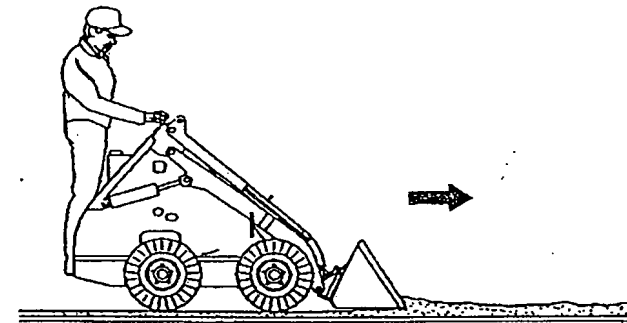

FIGURE 15
2. Drive machine forward slowly and continue to tilt bucket forward until it enters the ground to desired depth and then tilt it back a small amount to keep an even depth, as shown in Figure 15.